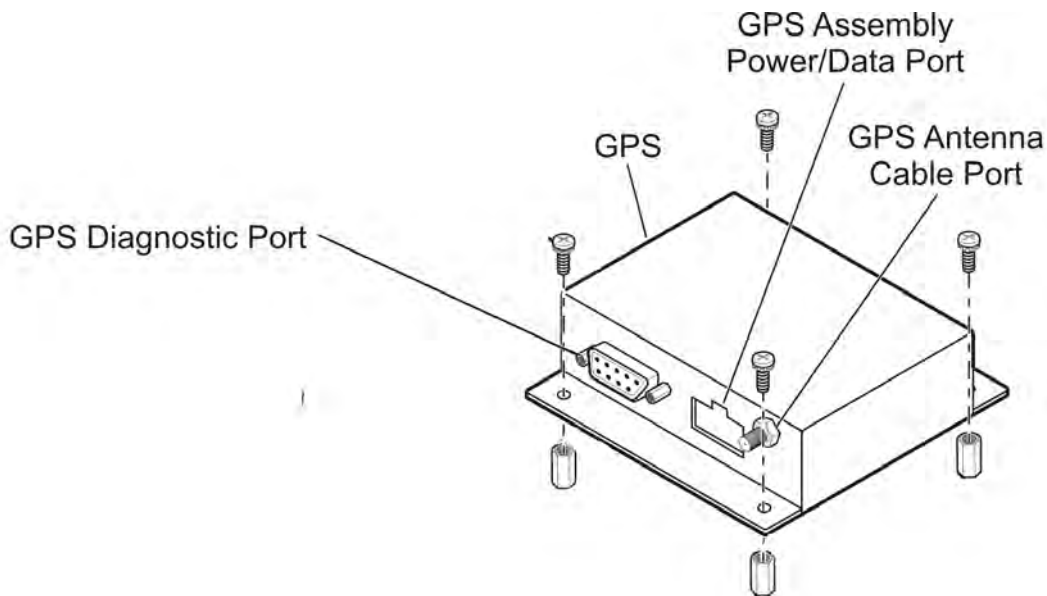

Figure D-5 GPS Assembly
The GPS timing assembly, which uses the globally available NAVSTAR GPS satellite navigation and timing service, can provide a precise 1 pulse per second (PPS) timing signal to the Orion Reader. The GPS timing assembly mounts to the top of the Orion Reader (Figure D-5).
1. Screw the four standoffs into the mounting holes of the Orion Reader as shown in Figure D-5.
10. Connect the antenna to the Orion Reader at the GPS antenna cable port (Figure D-5). Tighten this SMA connector to 10 in-lb.